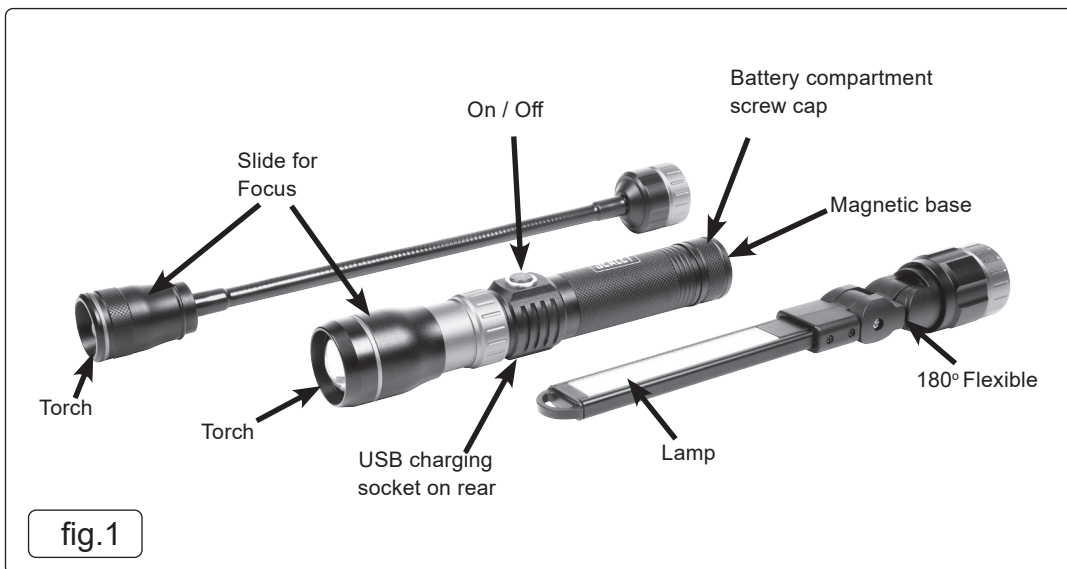

fig.1
4.4.1. Unscrew end cap on main body of torch.(fig.1)